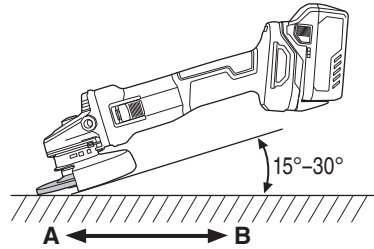

Fig. 17
- Use proper grinding angle. Grind only with the wheel's edge by lifting the grinder 15° to 30°, as shown in Fig. 17.
- Move the grinder in the proper direction. When using a new depressed center wheel in direction A (Fig. 17), the wheel edge may cut into the workpiece. In this case, grind in direction B (Fig. 17). Once the wheel edge is worn, the workpiece can be ground in both directions.